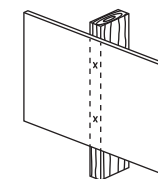

Fig. 1
- 3** While another person holds the wall plate in position, mark two locations (top and bottom) for securing the mount to the wall (see Fig. 1).